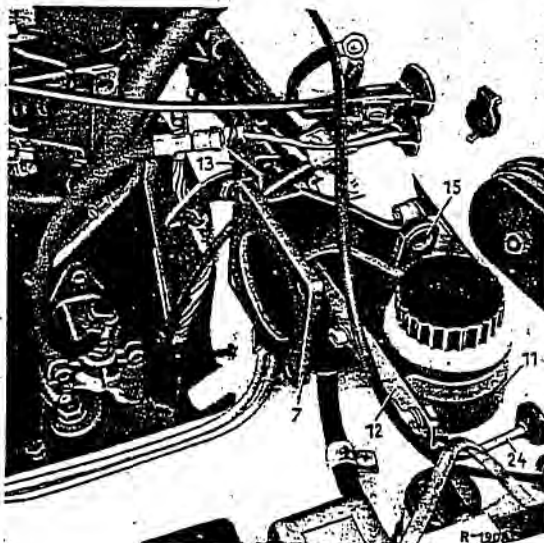

Fig. 42-16/7
8. On all models with the exception of Model 230 SL install the power brake (1) together with the intermediate flange (6) (Fig. 42-16/5).
9. On Model 230 SL attach the power brake (1) to the bearing bracket (7) (Fig. 42-16/3).
**Note:** On Model 230 SL also attach the bracket (13) for the oil pressure gage line and the bracket (12) for the reservoir of the supply cylinder to the bearing bracket (Fig. 42-16/3).